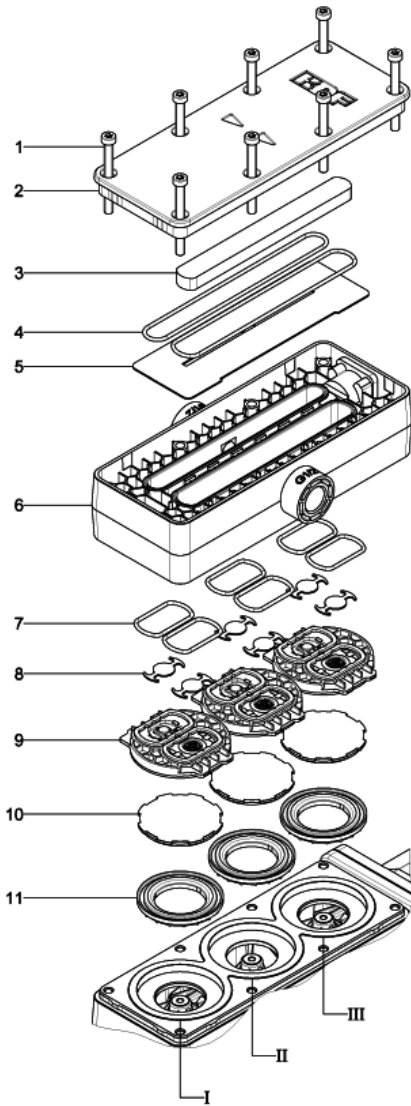
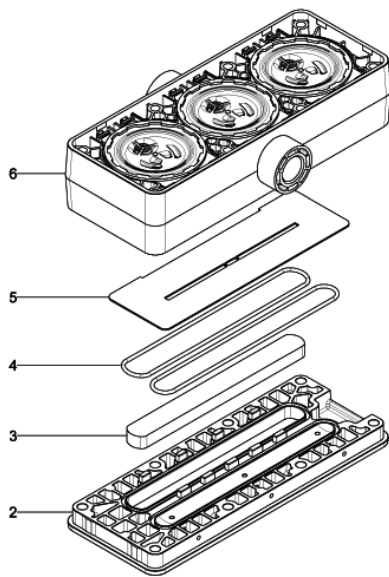
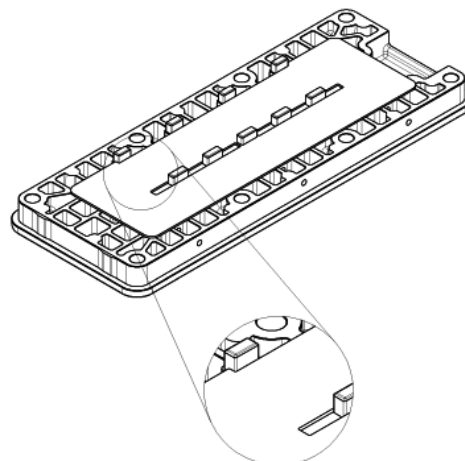

Figure 2: Head parts
Figure 4: Head installation
Figure 6: Installing the resonating diaphragm
1. Insert the three insert rings (11) in the pump housing; see Figure 2.
2. For easier installation of the diaphragms (10), turn the connecting rod to top dead center, beginning with head I. Tighten the diaphragms well (10) by hand. Repeat the steps for heads II and III.
3. For head II, press the middle diaphragm (10) to bottom dead center with your thumb.
4. Place the head plate (2) according to Figure 4.
5. Insert the Sylodyn (3) and the two O-rings (4) into the head plate (2).
6. Place the resonating diaphragm (5) on the head plate (2) according to Figure 6. Make sure that the cut-out in the resonating diaphragm (5) and the cams in the head plate (2) are positioned correctly.